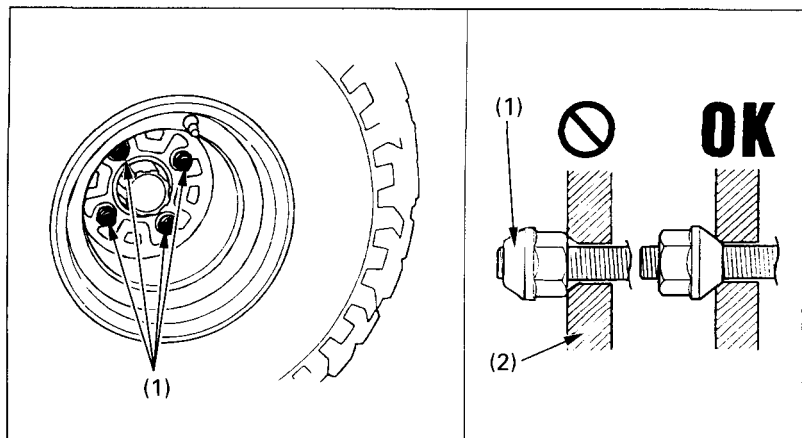

Fig. 4-35 (1) Wheel nuts
2. Loosen the wheel nuts (Fig. 4-35) with a 17 mm socket wrench.